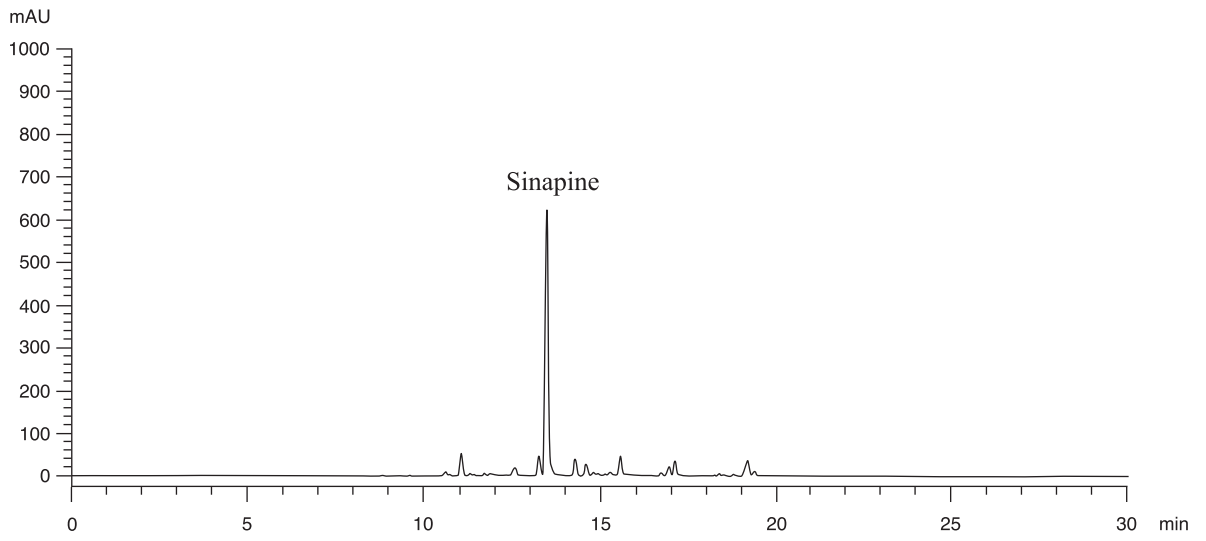

Figure 13 A reference assay chromatogram of dried ripe seed of *Brassica juncea* (L.) Czern. et Coss. extract
The *R* value between sinapine peak and the closest peak in the chromatogram of the test solution should not be less than 1.5 (Fig. 13).
Inject 10 µL of the test solution into the HPLC system and record the chromatogram. Identify sinapine peak (Fig. 13) in the chromatogram of the test solution by comparing its retention time with that in the chromatogram of sinapine thiocyanate Std-AS. The retention times of sinapine peaks from the two chromatograms should not differ by more than 5.0%. Measure the peak area and calculate the concentration (in milligram per litre) of sinapine thiocyanate in the test solution, and calculate the percentage content of sinapine (the percentage content of sinapine thiocyanate × 0.84, where 0.84 is the molar mass ratio of sinapine and sinapine thiocyanate) in the sample by using the equations as indicated in Appendix IV (B).